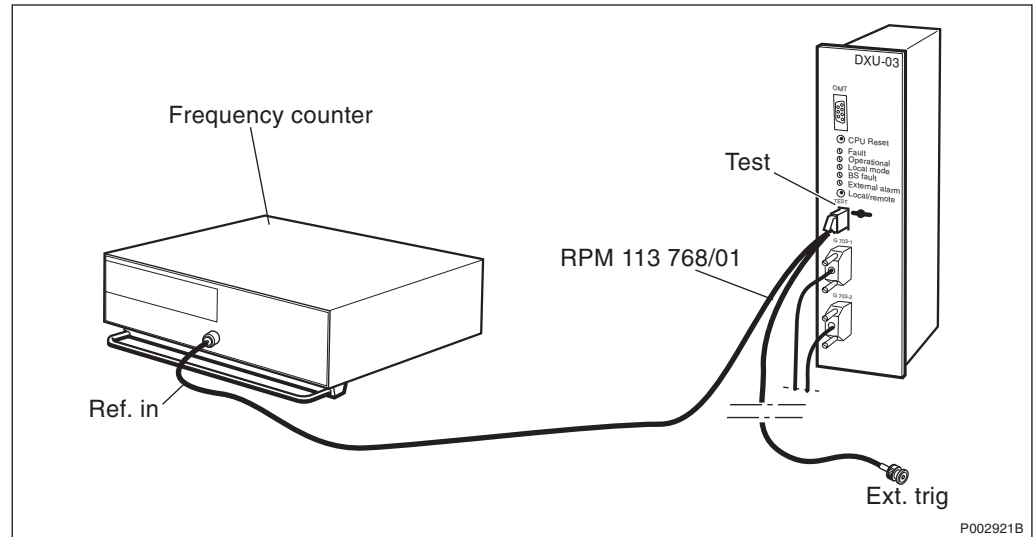

Figure 149 Connection of the frequency counter to DXU-03
1. Connect the frequency counter to the Test connector on the DXU-03, see Figure 149 on page 273.